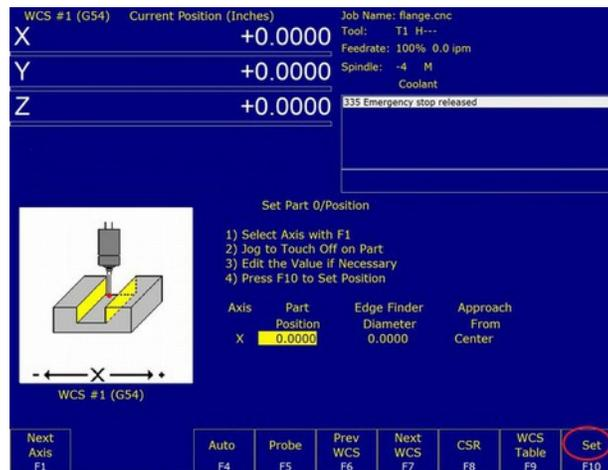

Figure 6.11.2
6. **Zero the software** From the main menu, press **F1 – Setup** → **F1 Part** → **F10 Set Zero** as shown below in Figure 6.11.2.